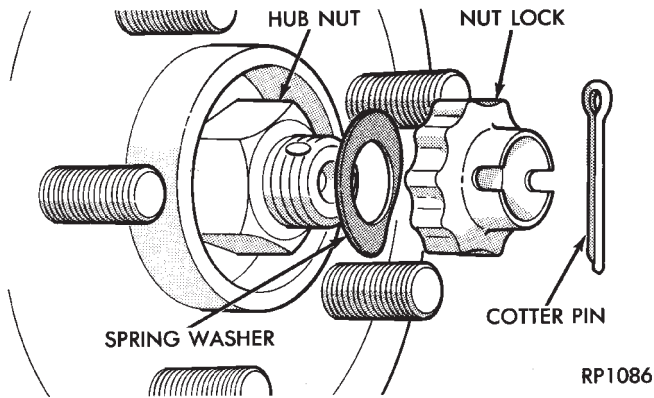

Fig. 30 Cotter Pin, Nut Lock
(1) Remove cotter pin, nut lock, and spring washer (Fig. 30) from the front stub axle.